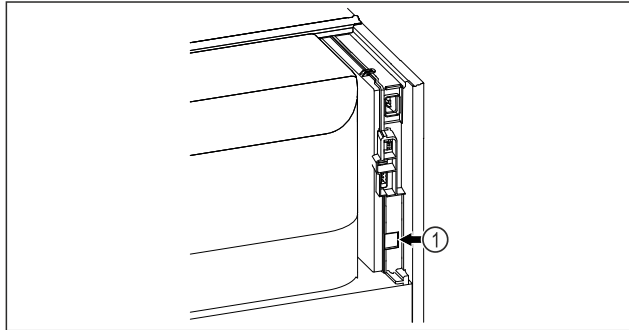

Fig. 90
- ☐ SmartModule Fig. 90 (1) is in use.